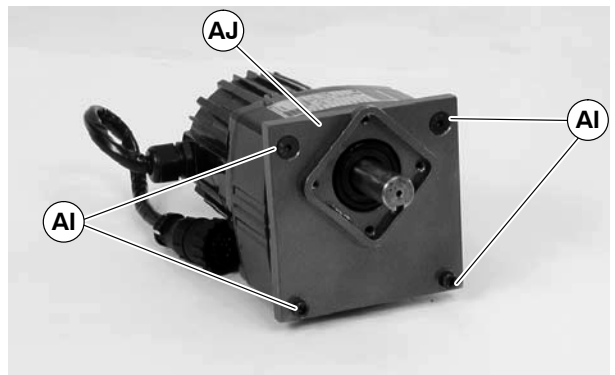

Figure 22
8. Remove four (4) adapter plate screws (AI of Figure 22). Remove adapter plate (AJ).